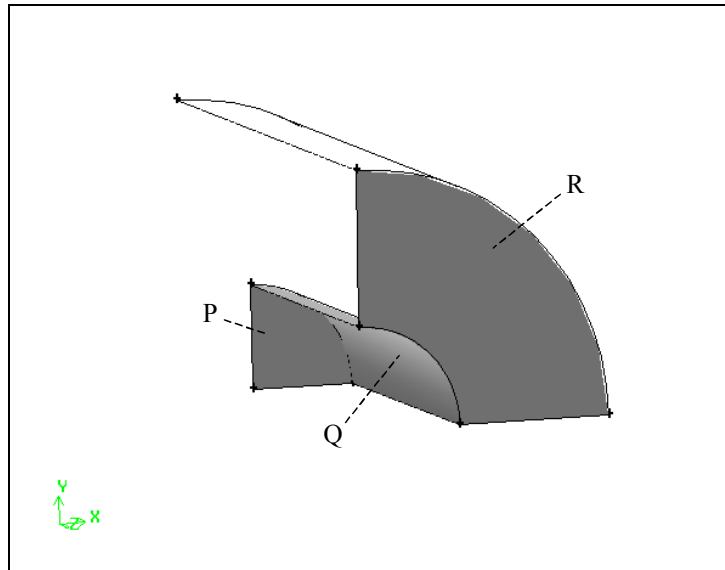

Figure 4-27: Faces to be meshed in the burner geometry
- a) Select the face marked P in Figure 4-27.
- a) Select the face marked Q in Figure 4-27.
a) Select the face marked R in Figure 4-27.